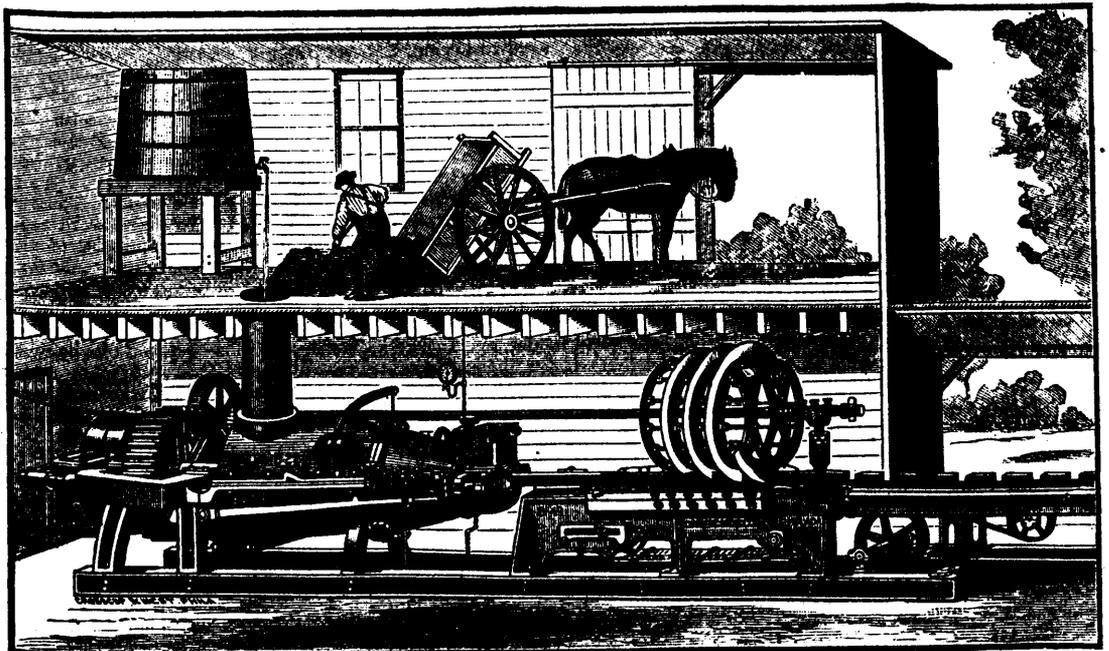
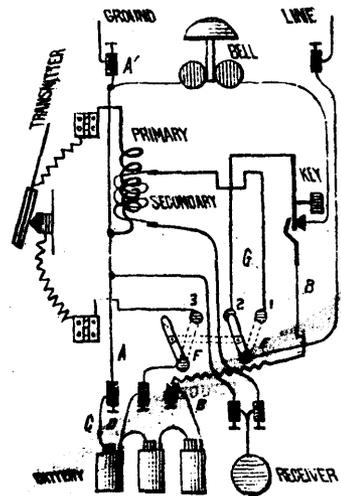

Fig. 1.—PERSPECTIVE VIEW OF THE CHAMBERS "B" BRICK MACHINE.—(SEE NEXT PAGE.)
Fig. 5. - Telephone Connections.
In Fig. 1 we show a sketch of an instrument given by W. H. C. This method of producing ovals doubtless is very old, and has occurred to almost every one who has given the matter any attention. In drawing an ellipse, however, this plan has one
*Ovals and Ellipses.—Fig. 1.—Sketch of Instrument Employed by W. H. C. and other Correspondents in the Solution of the Problem.*
Now, when the back end of the connecting rod has just reached its half travel, the front end will be some distance from the center of the crank circle. In other words, the crank will not be at right angles to the center line of the instrument. When the connecting rod is very long this difference is slight. If the rod could be infinitely long the difference would disappear entirely by becoming infinitely small. Fig. 5 shows the relation of the parts with a rod of  $1\frac{1}{2}$  times the length of crank. The lagging of one end of the rod upon the circumference of the circle is due
Fig. 1 shows the application of the principle to a rotary steam or air engine. Fig. 2 shows the rotary engine in a horizontal position adapted to running a millstone. Fig. 3 shows the device applied to the propulsion of wagons or cars, and Figs. 4, 5 and 6 show the application of the motor to elevated railroads.
The transmitter shown in the annexed engraving is based upon the same principle, and, so far as the devices for varying the currents go, it is even simpler than the original microphone. Fig. 1 shows the exterior of the instrument, Fig. 2 the interior, Fig. 3 a detail of the transmitter proper, Fig. 4 a sectional view of the receiver, and Fig. 5 is a diagram showing the battery and line connections. Everything, excepting the battery bell and receiver, is contained in the box. In the centre of the cover is formed the mouthpiece, behind which is placed the diaphragm, consisting of ordinary Russian iron of the thickness commonly used in stove-pipe. It is 2½ inches in diameter, and is held in position in a circular cast iron frame by two springs attached to the frame and pressing the diaphragm. The edge of the diaphragm is bound with soft rubber or felt. This arrangement, however, is not essential to the successful working of the instrument, as equally good results may be obtained when the diaphragm is clamped tightly at the edges between two rings fastened with screws to the front of the box.
The clamp which holds the carbon pencil is electrically connected with the lower hinge of the box. From the hinges the connections may be more easily traced in Fig. 5 than in the perspective views.